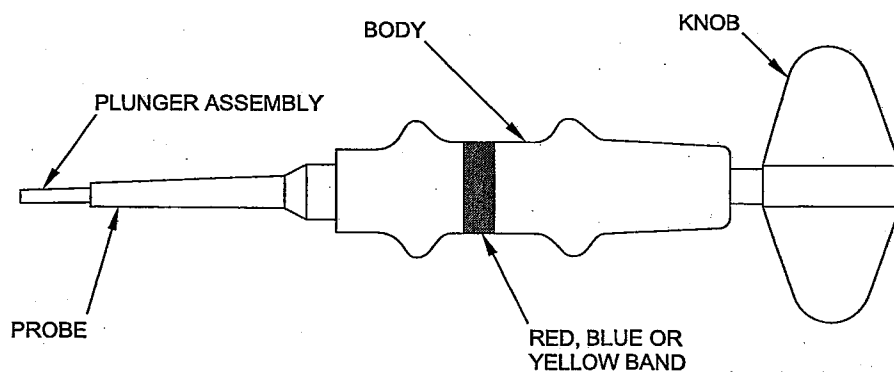

Fig 1. Unwired contact removal tool
3.1 The tool (Fig 1) consists of a body/plunger assembly and three removable plastic probes.